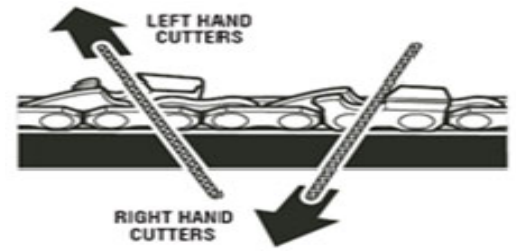

Figure 26
1. Position the File into a left-hand cutter with the holder and file at a 30° angle to the Bar (**Figure 26 and 27**).